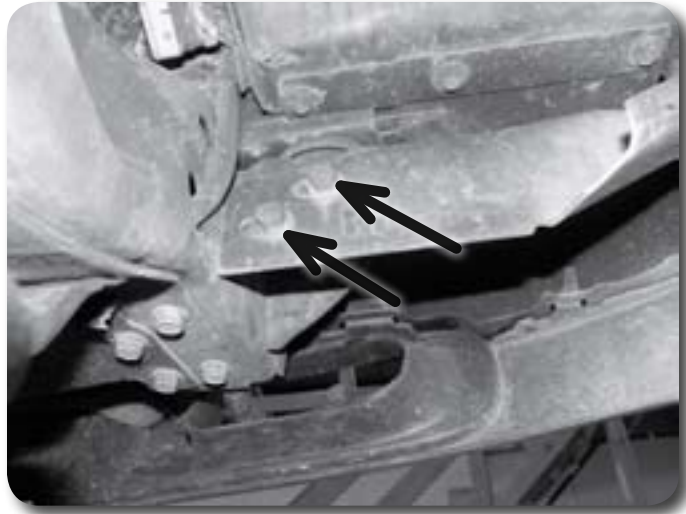

Figure 4
6. Remove the two bolts mounting each of the outside bumper brackets to the frame and remove the brackets from the vehicle **Figure 4**. Save hardware.